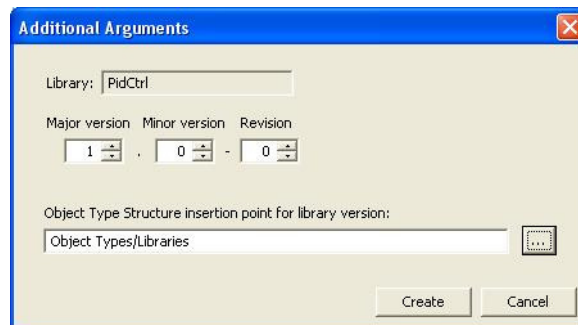

Figure 339. Additional Arguments Dialog Box
3. In the Additional Arguments dialog box, see Figure 339, you select version number for the first version of the library. You also select the Object Type Structure Insertion Point, either by using the browse button or directly type the path in the text field.